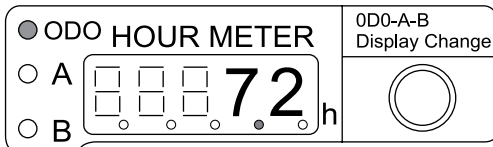

Figure 25. Hour Meter (Run Position)
7. Next, verify that the ODO LED indicator is lit (**ON**) and the hour meter display (Figure 25) shows total machine hour used.